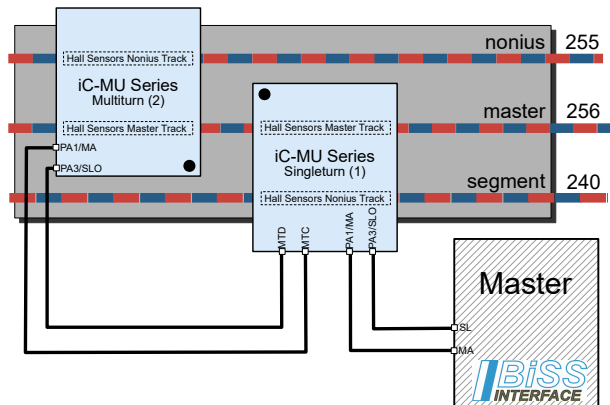

Figure 42: 3-track nonius with 2 iC-MU
The construction of such a system is shown as an example in Figure 42 and the configuration in Table 68.
To facilitate the initial configuration of an iC-MU as a SSI multitrurn device the command SWITCH can be used (see page 60). The singleturn iC-MU (1) in Figure 42 has to enable the direct communication to the multitrurn sensor by setting GET_MT to 1. The configuration of iC-MU (2) can take place using the BiSS protocol. After the configuration of the external multitrurn MODEA_NEW and RPL_NEW are used to set the target configuration of MODEA and RPL. After that the command SWITCH is executed. By reading STATUS1 it is possible to control if there was an error while executing the command. After the next startup or after the execution of the command SOFT_RESET iC-MU starts with the interface configured with MODEA_NEW and RPL_NEW.